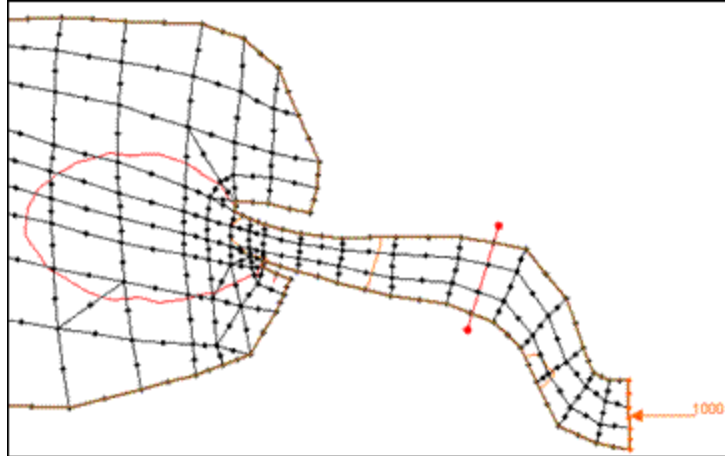

Figure 10 Observation arc across noyo1.sms mesh
8. Create an observation arc across the mesh as shown in Figure 10, using the **Create Feature Arc** tool.